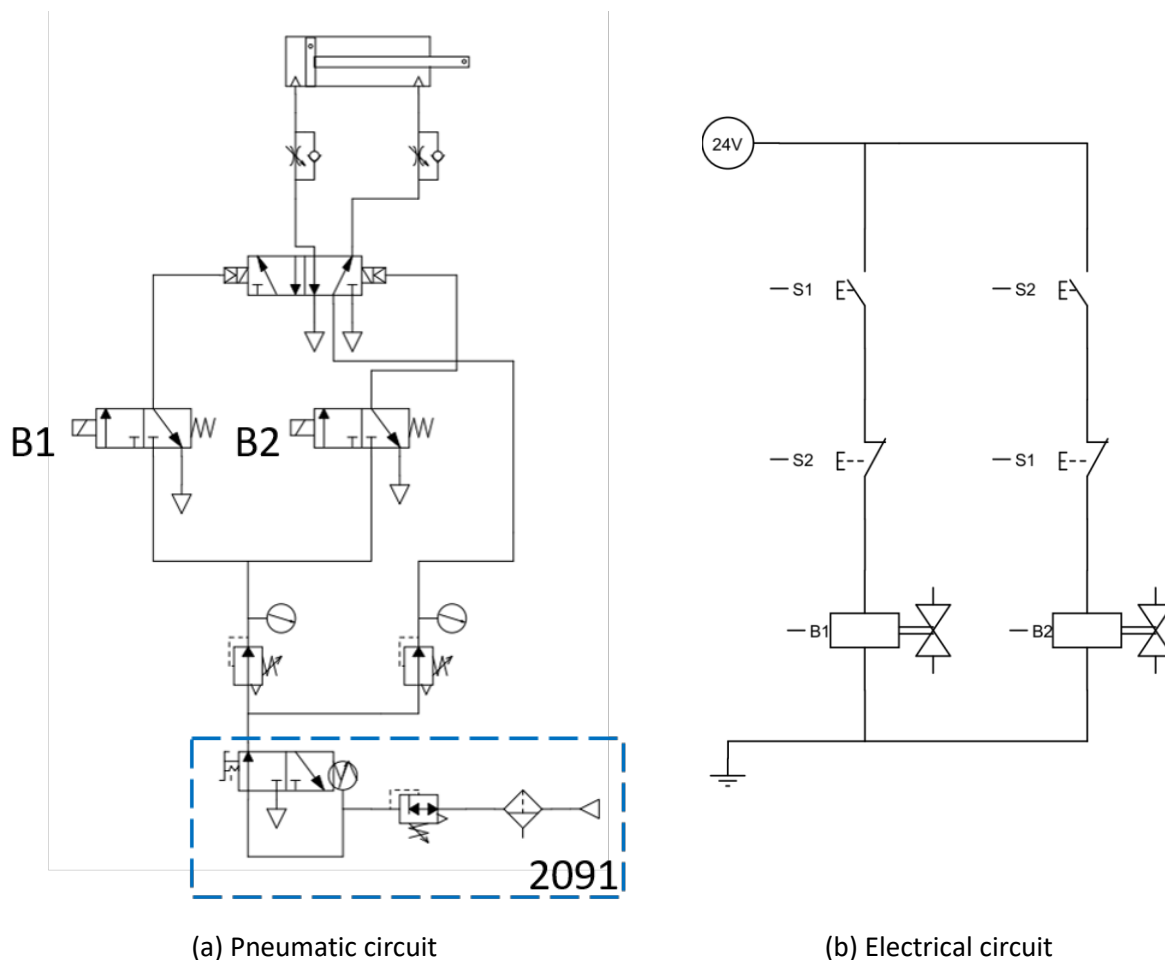

Figure 1.1: Circuit drawing of pneumatic and electrical circuits for Task 1
1. Connect the pneumatic circuit as shown in **Figure 1.1(a)**. Use directional valve 5/2 way (2024) and directional valve 3/2 way (2050 or 2052).
2. Connect the electric circuit as shown in **Figure 1.1(b)**.